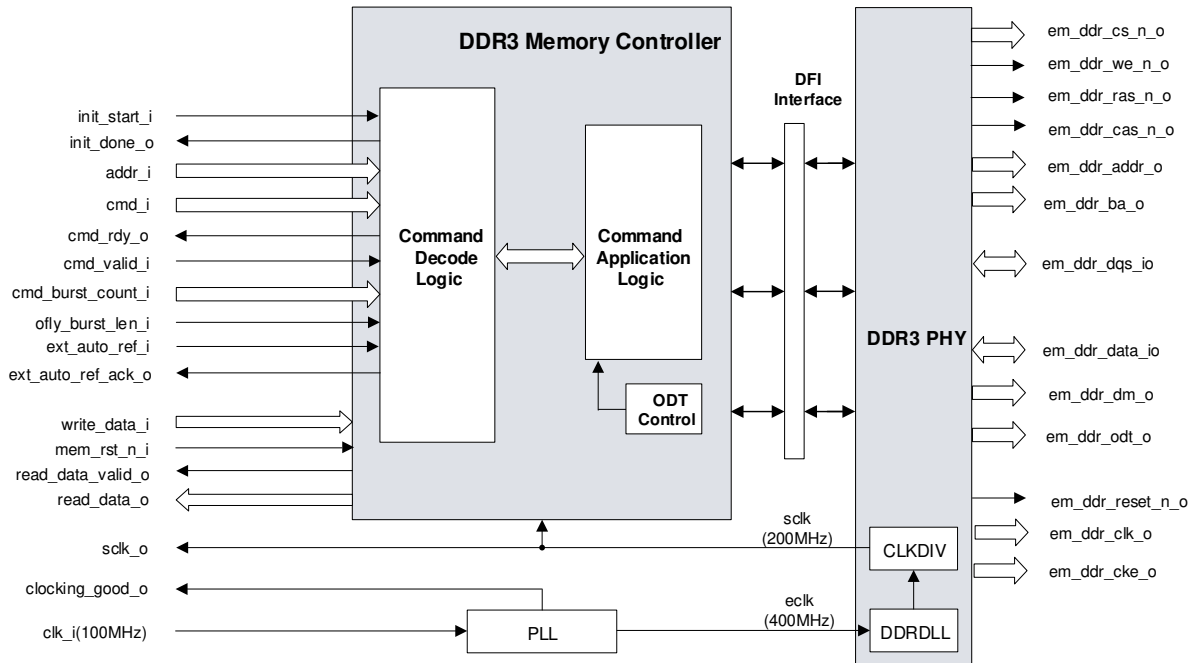

Figure 2.1. DDR3 SDRAM Controller IP Core Functional Diagram
The DDR3 memory controller consists of three submodules: Memory Controller (MC) module, Physical Interface (PHY) module, and the Phase-Locked Loop (PLL) instance. The Submodules Description section briefly describes the operation of each of these submodules. Figure 2.1 provides a high-level block diagram illustrating the main functional blocks used to implement the DDR3 SDRAM Controller IP Core functions.